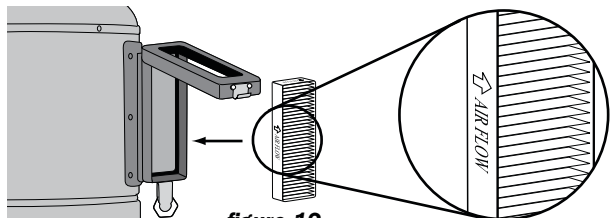

figure 12
3. Insert the new filter. When doing so, please ensure that the arrow printed on the filter itself points outwards. (**figure 12**).